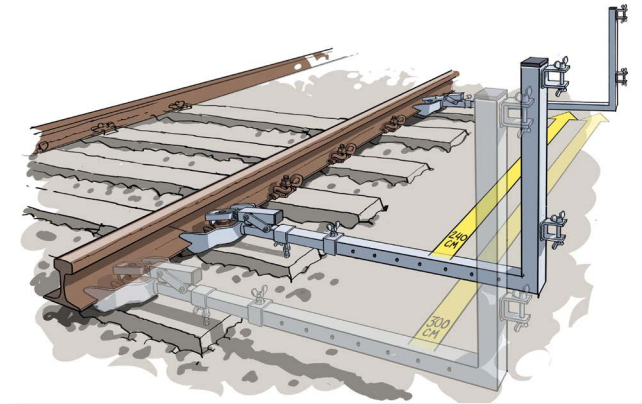

Figure 9
- Place the second stanchion at a distance of approx. 2.4 metres. from the first stanchion (see fig.9).
- Always mount all following stanchions at a maximum of 3.0 metres from the previous stanchion (see fig. 9).